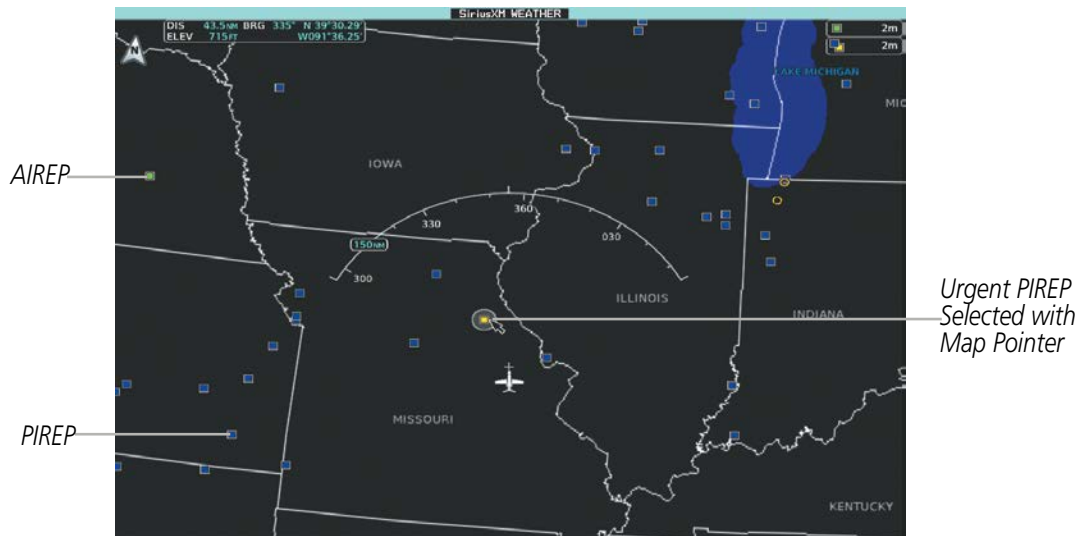

Figure 6-33 AIREPs and PIREPs on the SiriusXM Weather Pane
Pilot Weather Reports (PIREPs) (Figure 6-33) provide weather observations collected from pilots. When significant weather conditions are reported or forecast, Air Traffic Control (ATC) facilities are required to solicit PIREPs. A PIREP may contain adverse weather conditions, such as low in-flight visibility, icing conditions, wind shear, and turbulence. PIREPs are issued as either Routine (UA) or Urgent (UUA).